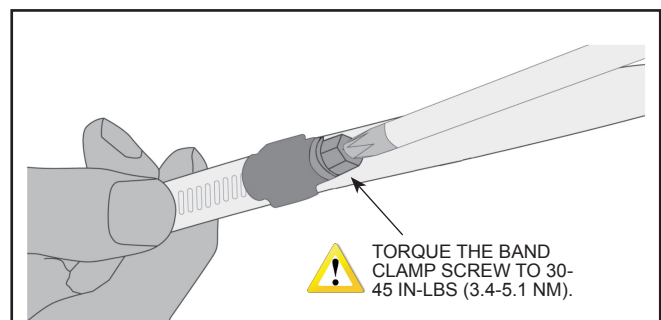

Figure 3: Band Clamp Screw Threads
6. Torque the band clamp screw to 30-45 in-lbs (3.4-5.1 Nm). See *Figure 3*.